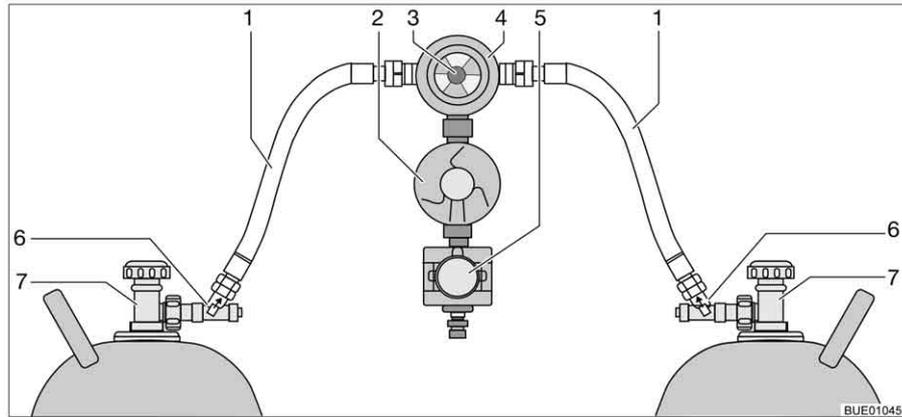

Fig. 146 Crash protection unit switching facility
The crash protection unit consists of two flow restrictors with manual release button (Fig. 146,6) a reversing valve (Fig. 146,4) with pressure regulator (Fig. 146,2), an electrovalve (Fig. 146,5) and the operating unit with tricoloured LED. The reversing valve is installed between the two gas tubes (Fig. 146,1).
Use the knob (Fig. 146,3) on the reversing valve to select which of the gas bottles is to be used as a primary bottle and which is to be used as a reserve bottle.
Only the electrical functions can be switched at the operating unit (Fig. 147). The regulator taps on the gas bottles (Fig. 146,7) and the release buttons (Fig. 146,6) must be opened manually.
- Open the regulator taps of the gas bottles (Fig. 146,7).
- Press the release buttons (Fig. 146,6) successively for 10 seconds.
- Use the knob (Fig. 146,3) on the reversing valve (Fig. 146,4) to select the gas bottle which is to be the primary source of gas (primary bottle). Always turn the knob as far as it will go.
- Close the regulator taps of the gas bottles (Fig. 146,7).